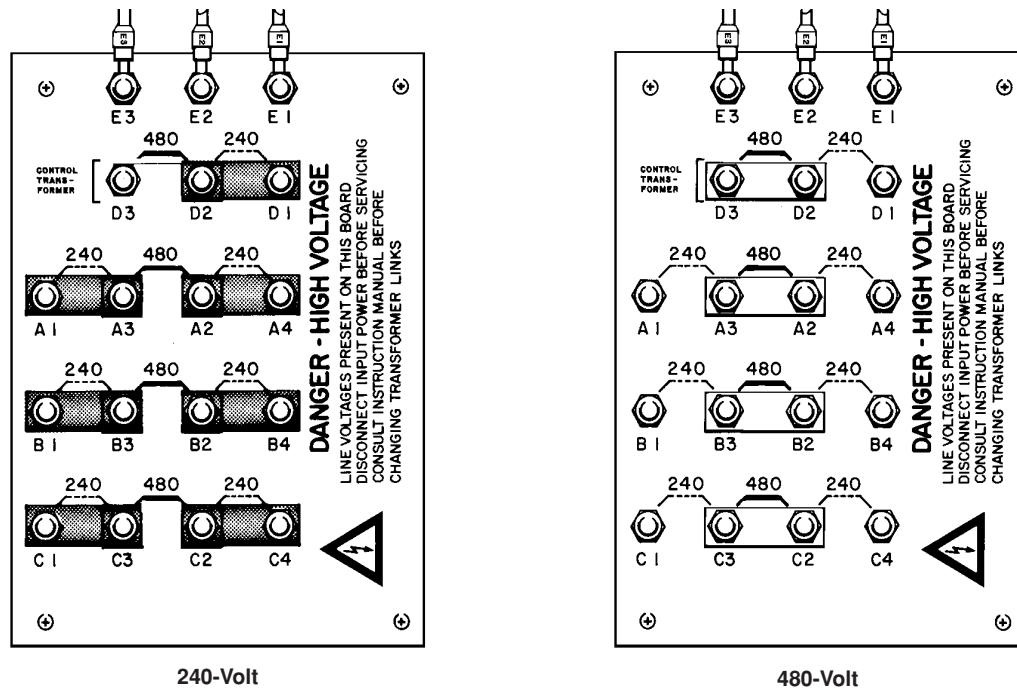

Figure 3-2 Dual Voltage 240/480-Volt Linkboard Configurations
- The 240/480-volt power supplies (078019) are shipped configured for 480-volt operation. The links must be moved for 240-volt operation (Figure 3-2).